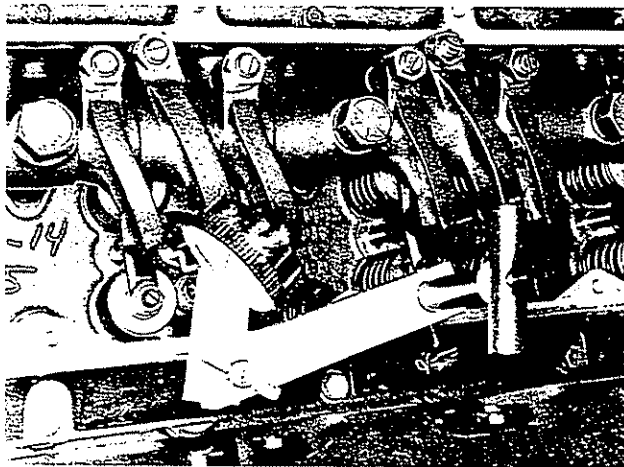

Fig. 2-38, (V514114). Dial indicator in place — V-903
1. Set up the ST-1170 Indicator Support with the indicator extension atop the injector plunger flange at the cylinder to be set. Fig. 2-38.